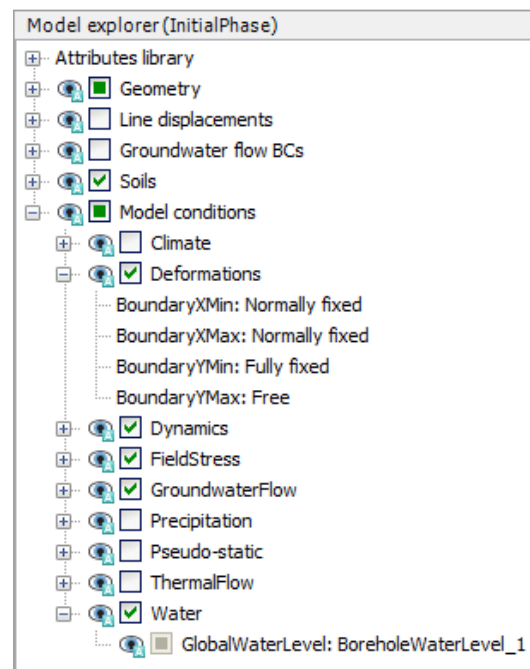

Figure 14: Model explorer showing model conditions and Deformations
- In the **Model explorer** expand the **Model conditions** subtree as shown in Figure 14 (on page 24).